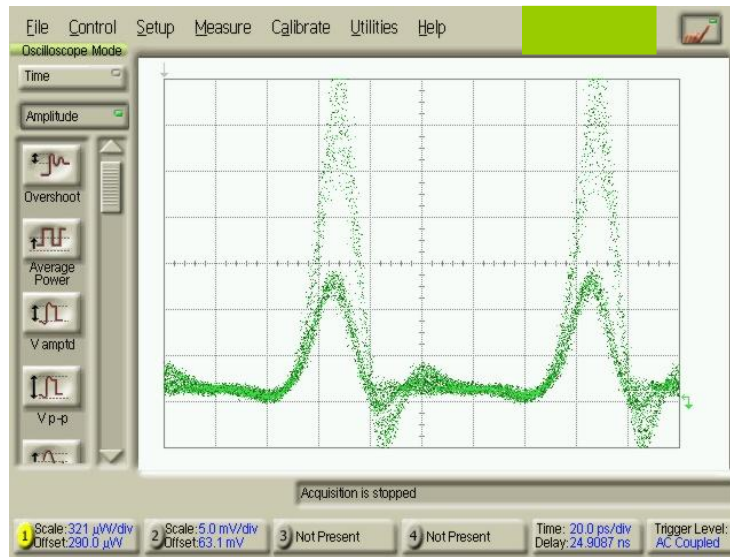
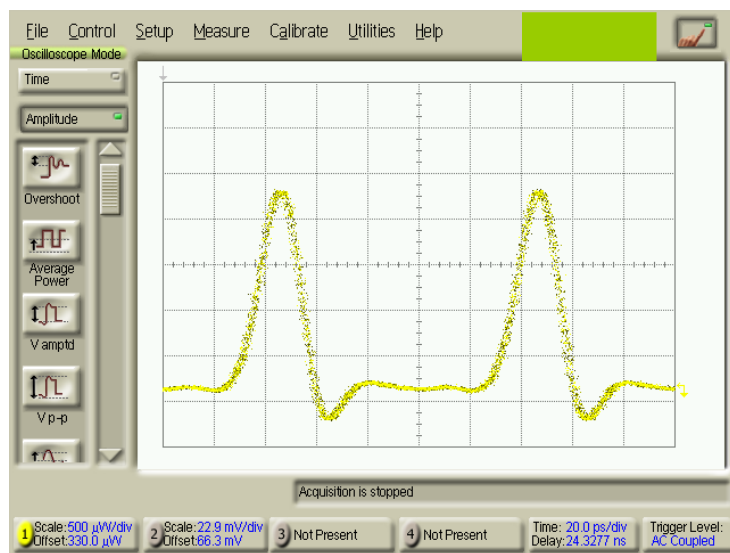

Figure 5a. A typical fast scope trace on a DCA when the RF SOURCE frequency is close to a stable mode-locked frequency point. The phase lock switch is off.
Figure 5b. A typical fast scope trace on a DCA when the laser is phase-locked to the RF SOURCE with phase and bias optimized.
2) After setting the frequency of the **RF SOURCE** to f_T , fine-tune the frequency around the initial f_T to find the clear 10 GHz pulse train display on the **DCA**. A typical trace is shown in Figure 5a. It is normal at this moment for the trace on the **DCA** to be clear only for a short period of time and then drift away.
4) Fine-tune **PHASE SHIFTER** and **MODULATOR BIAS** around their initial set value to achieve a stable low noise trace on the **DCA**. It would be helpful sometimes to fine-tune the **WAVELENGTH TUNING**. A typical trace is shown in Figure 5b.
After setting the frequency of the **RF SOURCE** to **fa** (9.95328G for this example), use 100 Hz increment to fine-tune RF source frequency around the initial **fa**. Find the clear pulse train display on **DCA** such as what are shown in Figure 5a or Figure 5b. Record the frequency shown in **RF SOURCE** as **fb** (at the example **fb**=9.95306G)